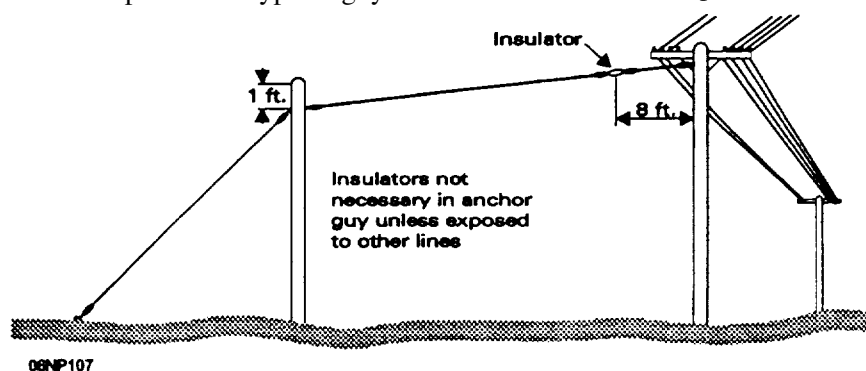

Figure 4-10.—Stub guy.
**STUB GUY.**—A guy wire installed between a line pole and a stub pole on which there is no energized equipment is called a "stub guy" (fig. 4-10). A down guy is used to secure the stub pole. This type of guy is